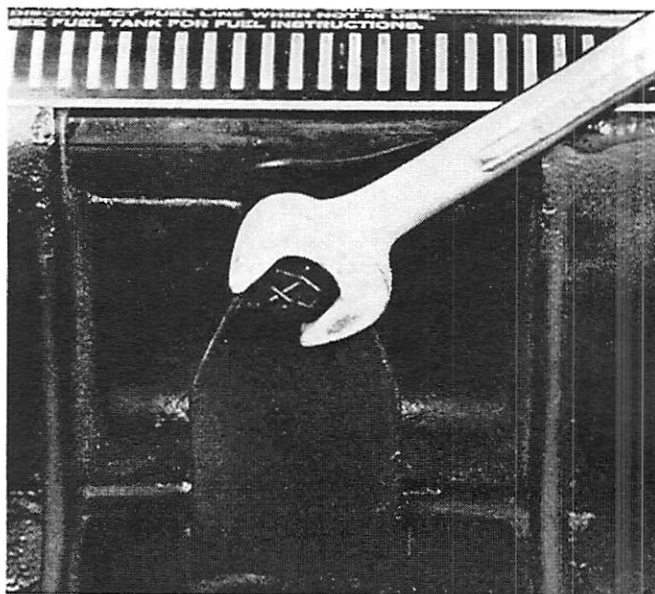

Figure 10. Co-Pilot Adjustment
1. To install co-pilot (Figure 10), slide clamp plate assembly from kit thru slot (friction button side down) in bottom face of swivel bracket. (Figure 10)
2. Fasten clamp plate assembly to swivel bracket with screw and 5/16" internal lockwasher. (Figure 10)
4. Tighten adjusting screw (Figure 10) to increase friction; loosen to decrease friction.